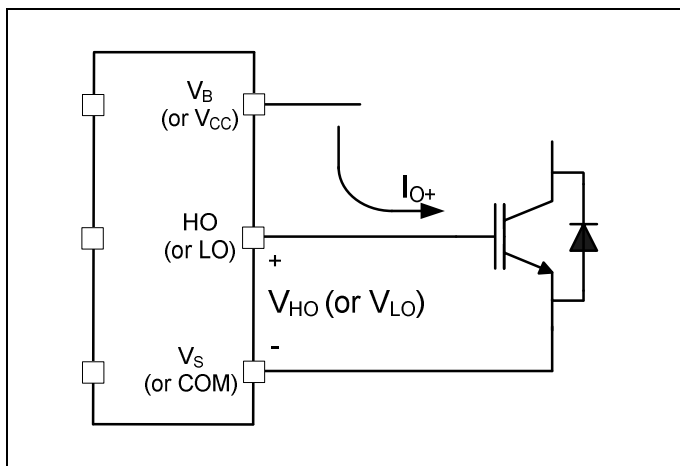
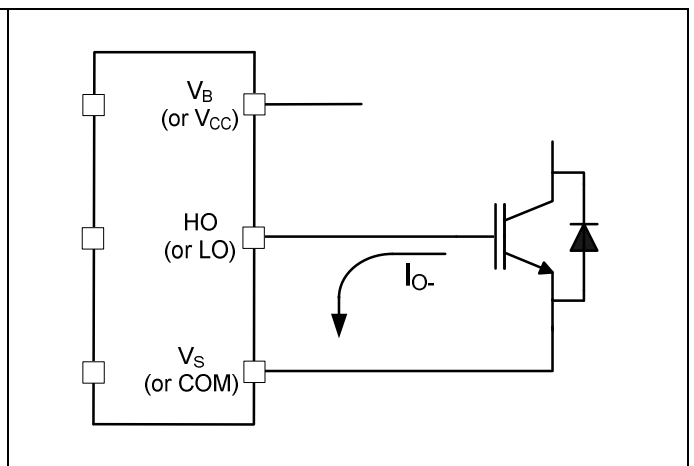

Figure 4 HVIC Sourcing current
Figure 5 HVIC Sinking current
The 2ED2108 (4) S06F (J) HVIC is designed to drive MOSFET or IGBT power devices. Figure 4 and Figure 5 illustrate several parameters associated with the gate drive functionality of the HVIC. The output current of the HVIC, used to drive the gate of the power switch, is defined as I_o . The voltage that drives the gate of the external power switch is defined as V_{HO} for the high-side power switch and V_{LO} for the low-side power switch; this parameter is sometimes generically called V_{OUT} and in this case does not differentiate between the high-side or low-side output voltage.